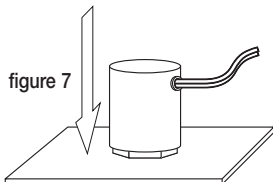

figure 7
10. Place the **plastic cover** over the **retainer** to protect the top to the **UV lamp**. The **lamp** should be seated low enough in the **sleeve** so that when the **plastic cover** is in place, there is clearance between it and the cabinet top (See figure 7). Plug ballast into properly grounded 110-120 Volt household receptacle.